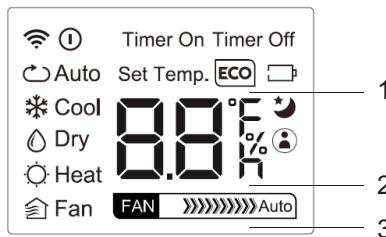

fig. 6 -
- ECO mode** (part. 1 "fig. 6 -") (the indoor unit displays shows the "E-C-O" letters one by one, followed by the temperature setpoint). The "energy saving" mode is only available in COOL mode by pressing the "ECO" button. If the temperature setpoint is lower than 24°C, by activating the "ECO" mode the temperature setpoint is automatically set to 24°C and fan speed to "Auto" to save energy. If the temperature setpoint is higher than 24°C, by activating the "ECO" mode the temperature setpoint does not change and fan speed is set to "Auto". To stop the "ECO" mode, either press the "ECO" button, or choose another operation mode, or choose a temperature setpoint lower than 24°C
- SLEEP function** (part.2 "fig. 6 -"). Pressing the "SLEEP" button to preset the machine in night mode. The SLEEP mode is indicated by the symbol on the display. The set point temperature will be increased (in cooling operation "COOL") or decreases (in hot operation "HEAT") 1 ° C at predetermined intervals to a maximum of 2 ° C. SLEEP function stops automatically after 8 hours and the unit will continue operation by keeping the last setpoint. The function is not available in "FAN" and "DRY" modes.
- FOLLOW ME function** (part.3 "fig. 6 -"). Activated in HEAT - AUTO - COOL mode operation. The remote control will send this signal to the air conditioner every 3 minutes interval until press the Follow Me button again. The air conditioner will cancel the Follow Me feature automatically if it does not receive the signal during any 7 minute interval.